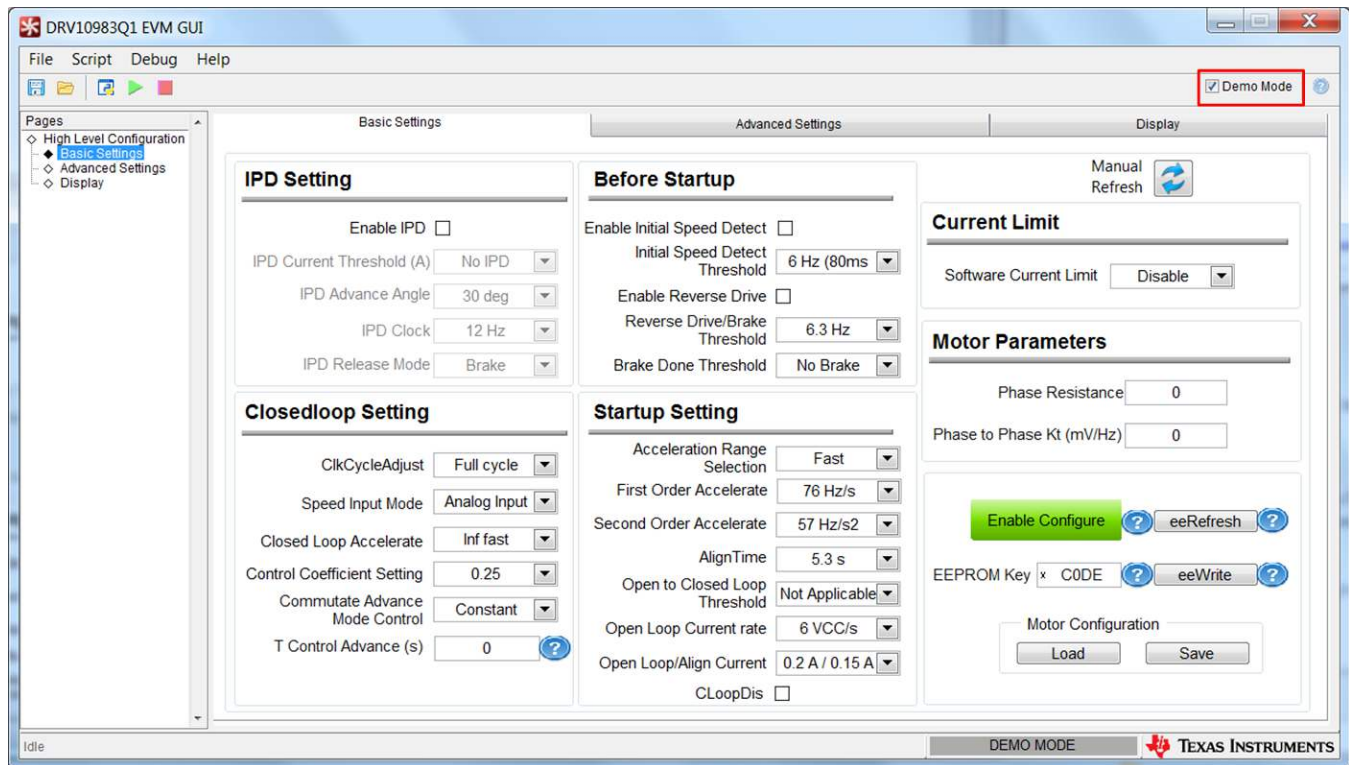

Figure 10. GUI in Demo Mode
- If the *Demo Mode* button was clicked, the GUI displays the *Basic Settings* as shown in Figure 10. Click the *Demo Mode* checkbox to deselect the demo mode communication and proceed to step 11.